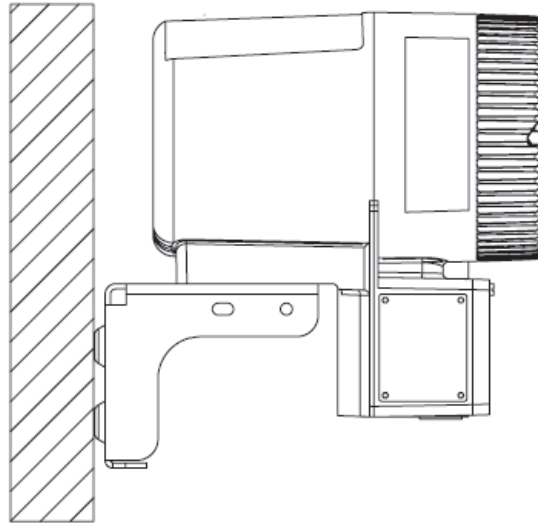

*Figure 2. Transmitter Mounting*
Four 0.437-20 UNS threaded holes are provided on the surface of the enclosure on which a carbon steel mounting bracket or optional stainless steel (SS) mounting bracket can be attached. The other surface of the bracket allows for mounting to a surface, or to a nominal DN50 (2 inch) vertical or horizontal pipe. An optional bracket is available for mounting to a DN80 (3 inch) vertical or horizontal pipe. See Figure 2.
The housing can be positioned at almost any angle in a horizontal plane by loosening the bracket bolt and turning the housing with respect to the mounting bracket. See Figure 2.